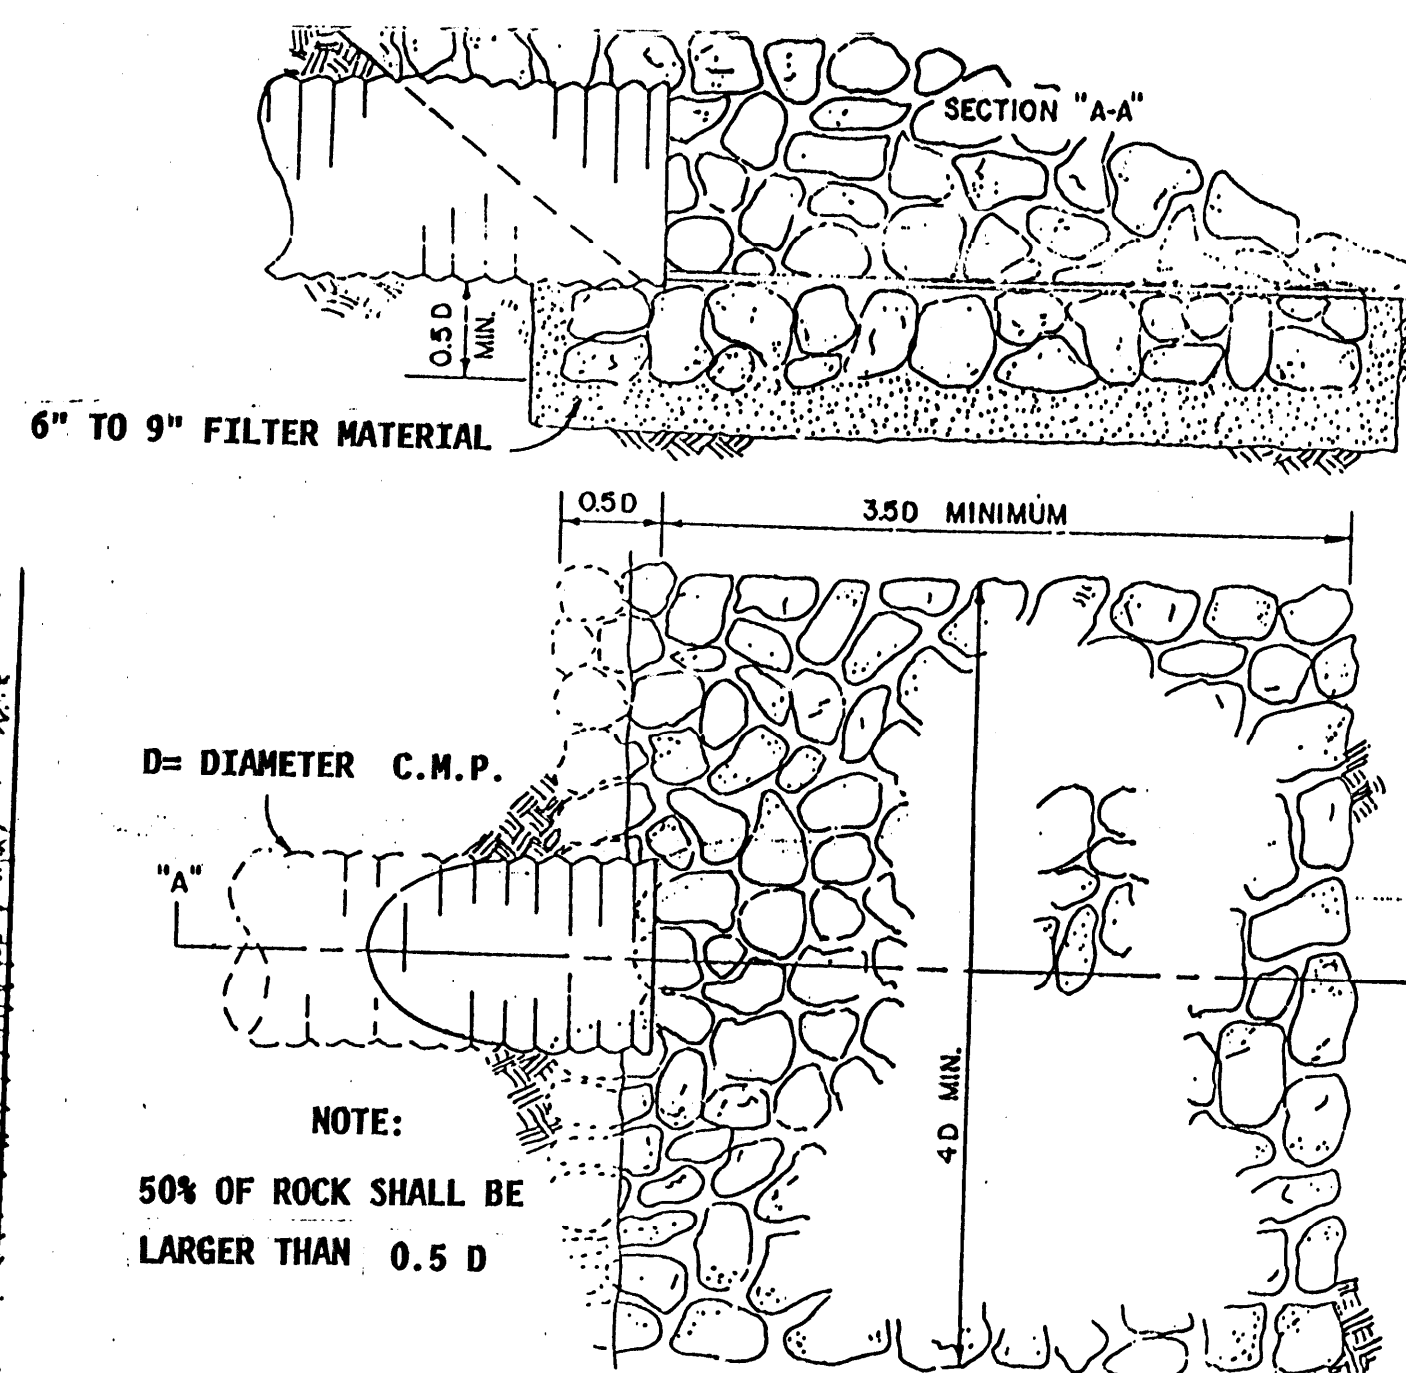

FIGURE 4 DISCHARGE APRON
1. A discharge apron is a permanent concrete and rock-grouted apron which is located at the discharge outlet of drainage structure to reduce the velocity of runoff and protect the ground surface (Figure 4).